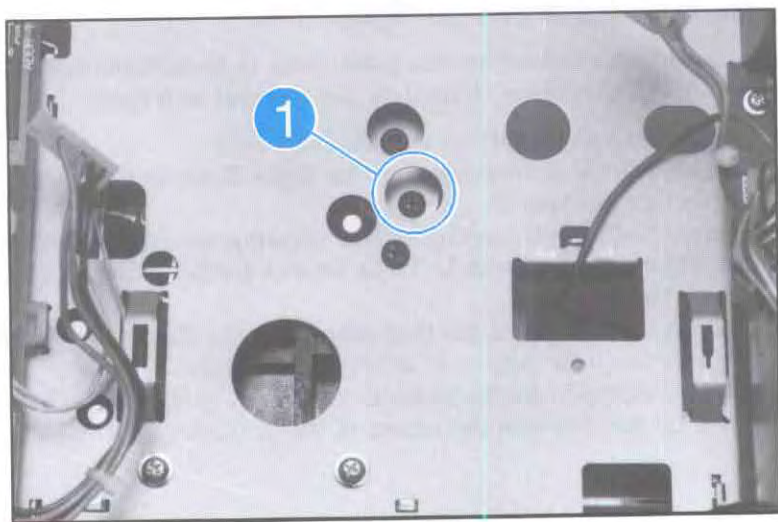

Figure 6-39. Right Block (continued)
16. Remove the (2) self tapping screws securing the Right Block (see Figure 6-39, callout 1. These screws are behind the DC Power Supply).